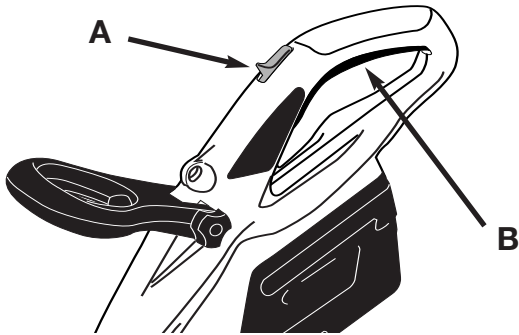

Fig. 10
1. Push forward the lock-off switch (A) and depress the trigger switch (B) to start. (Fig. 10)